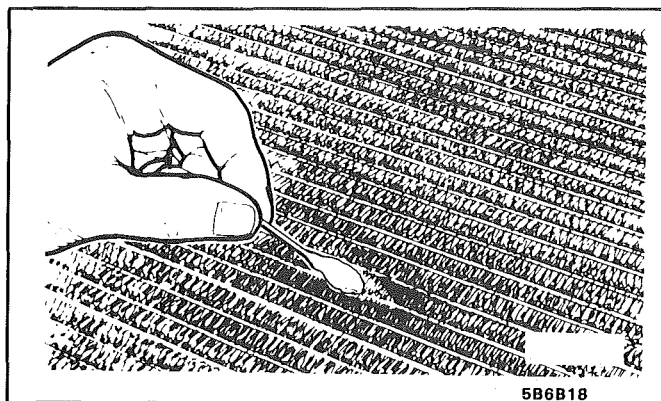

Fig. 19 Scrubbing Area with Primer
6. Scrub the repair area with a cotton swab until a fresh swab stays clean. The clear, yellow-brown coating does not have to be removed (Fig. 19).